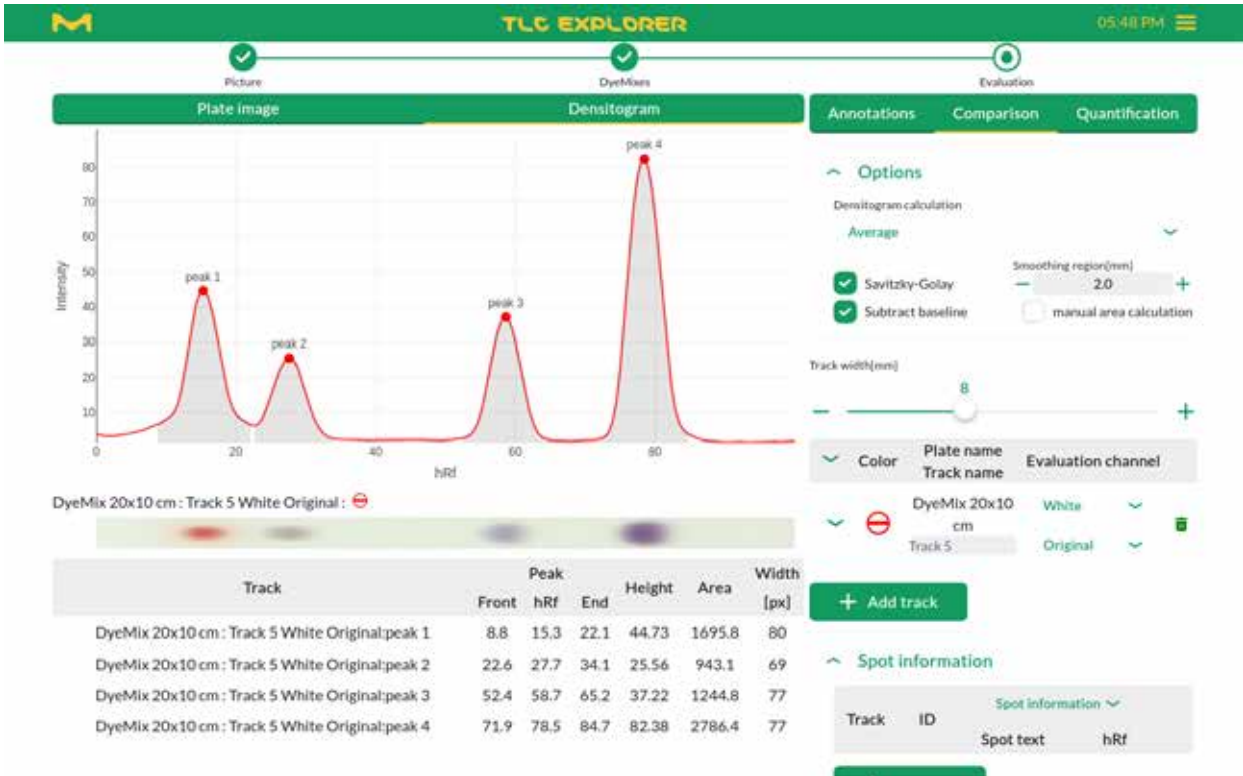

Figure 4.16: Edit densitogram calculation and display
- 8) Above the plate image, click on tab 'Densitogram' to see the track plotted. Below it, you can see the vertically rotated track image, scaled to match the plot's x-axis above, and a table with automatically detected peaks (see figure 4.16).
- 10) Expanding the 'Options' section gives you access to additional controls (see figure 4.16) which will be applied to all tracks of this 'Comparison':